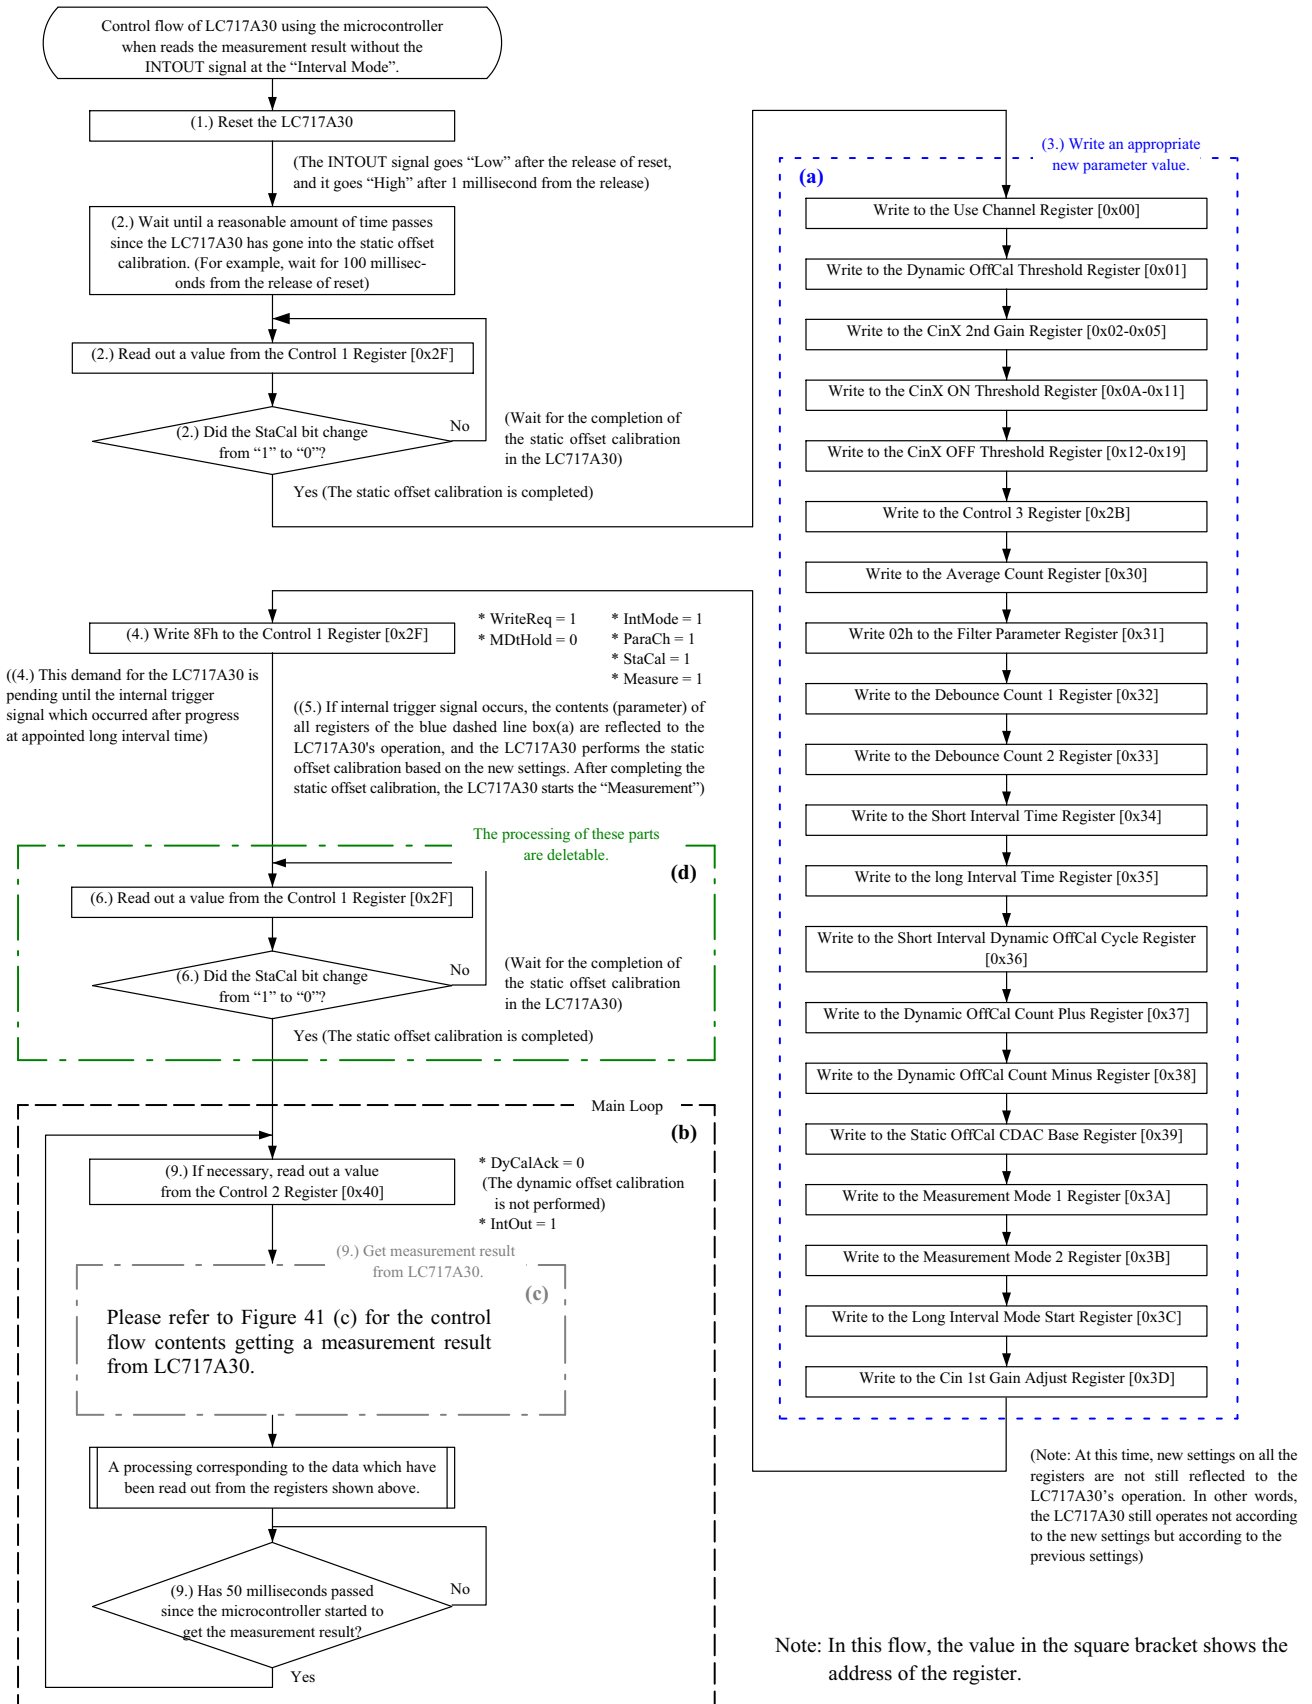

Figure 43. Control Flow Example When the Microcontroller Reads the Measurement Result without the INTOUT Signal at the "Interval Mode"
3. The microcontroller writes an appropriate parameter value to each register of the LC717A30 over the I²C bus or SPI. (For more information about registers the microcontroller may write a parameter to, refer to the inside of the blue dashed line box(a) on the control flow figure shown in Figure 43) Especially, in this example, the microcontroller